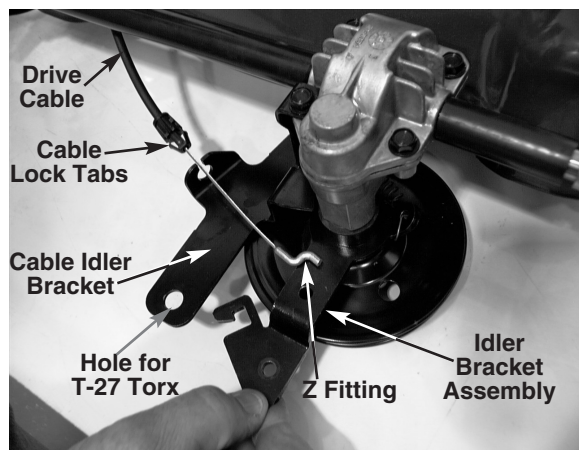

FIGURE 2.
4. Remove the drive cable from the cable idler bracket by squeezing the cable lock tabs in and pulling the "Z" fitting from the idler arm. See figure 2.